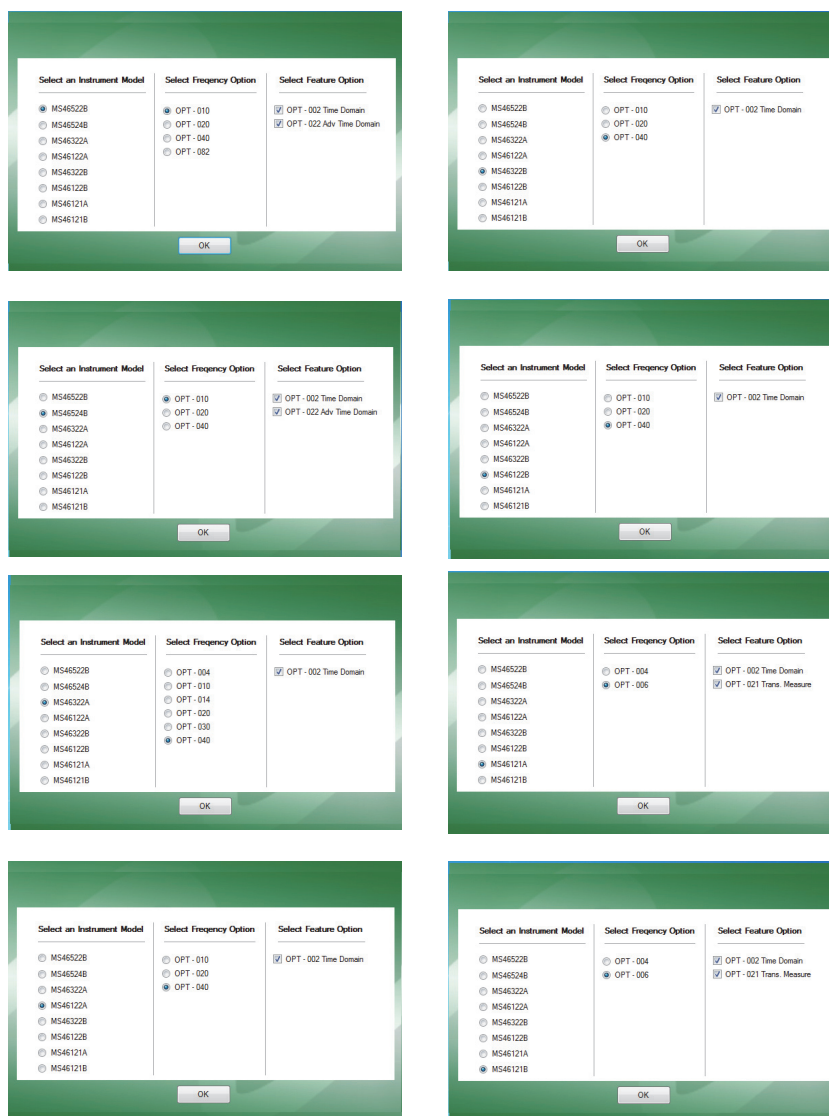

Figure 3-8. Simulator Mode Model/Option Configurations Available
5. See Figure 3-8 to view the ShockLine model/option configurations available. There is a separate menu for each VNA series with choices for available frequency and other options.